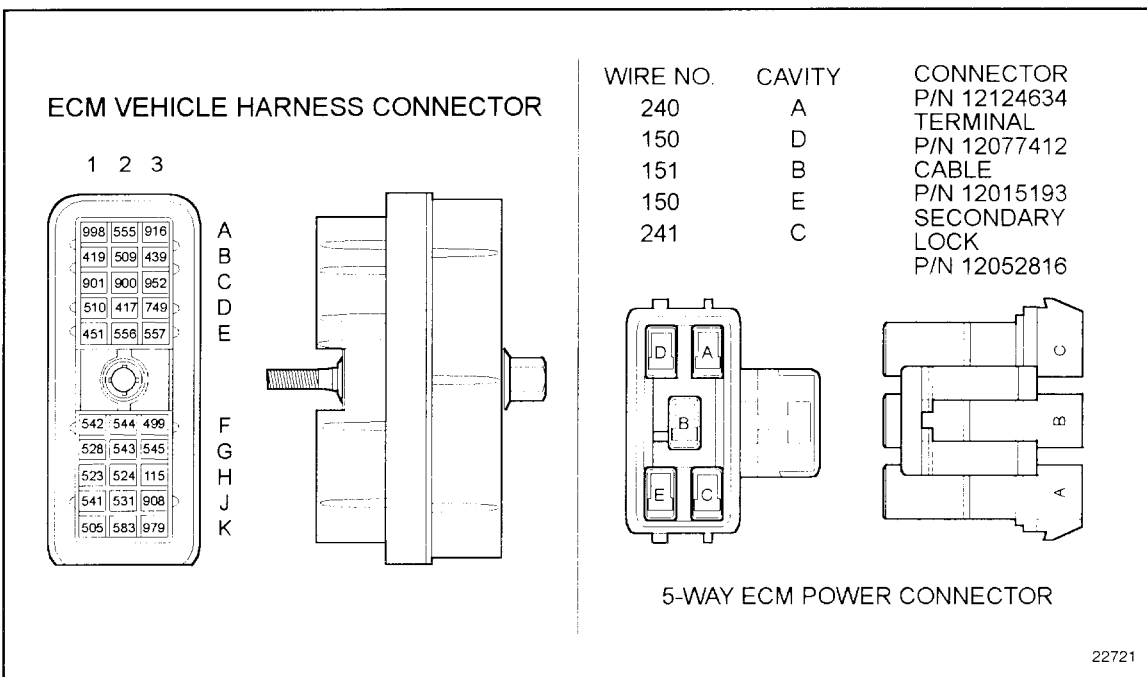

Figure 21-4 ECM Vehicle Harness Connector
3. Read resistance between sockets D2 and A3 on the vehicle harness connector. For ECM vehicle harness connector, see Figure 21-4.